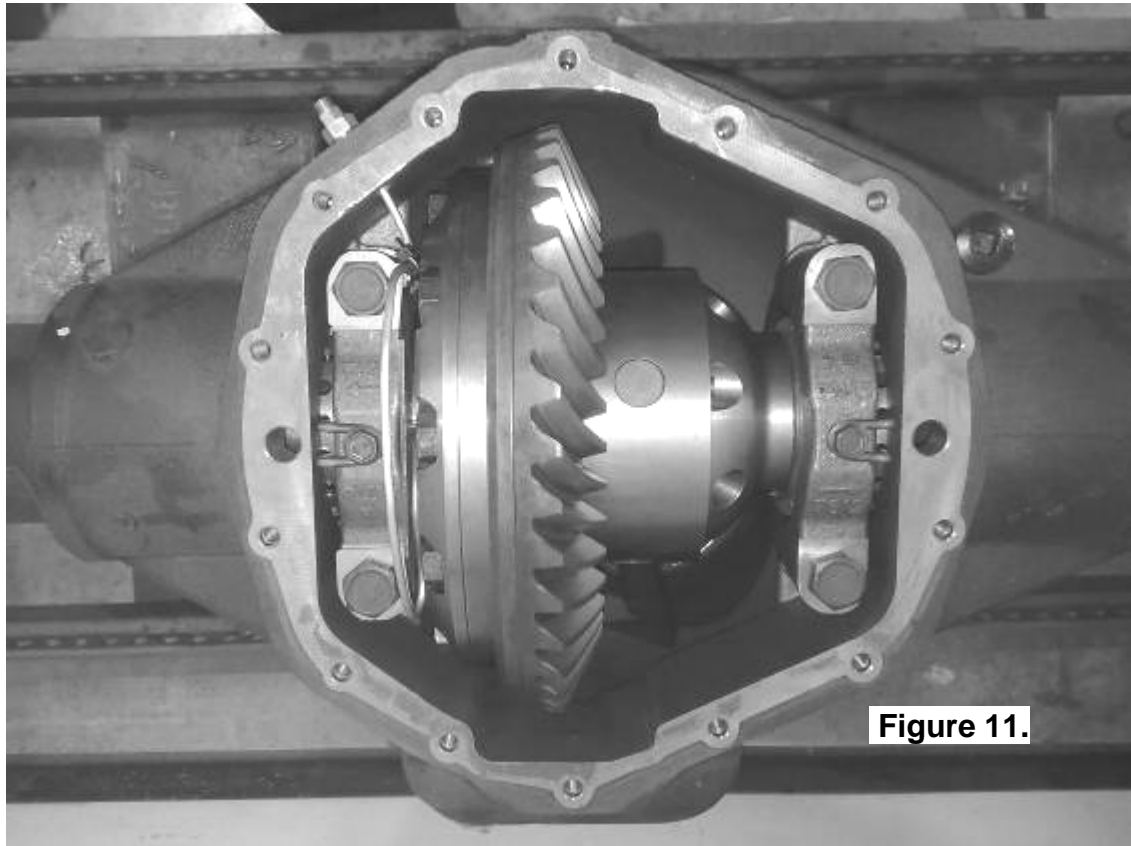

Figure 11.
- With the seal housing tube now firmly secured into the bulkhead fitting, bend the tube so that it closely follows the profile of the differential. Cable tie the seal housing tube to the seal housing retaining plate. (Fig.11. & 12.).